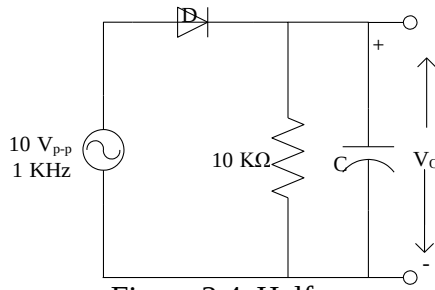
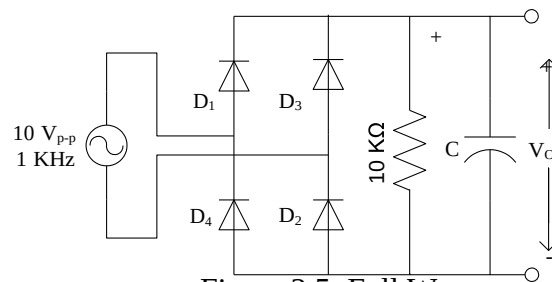

Figure 2.4: Half wave
Figure 2.5: Full Wave
1. First, connect the circuit in breadboard as shown in figure 2.4 without any capacitor.
7. Repeat steps 1-6 for Figure 2.5.
Half Wave Rectifier (Fig 2.4)	Full wave Rectifier (Fig 2.5)
a) Input-output without capacitor (fig 2.4)
d) Input-output without capacitor (fig 2.5)
b) Input-output with 0.22uF (fig 2.4)
e) Input-output with 0.22uF (fig 2.5)
c) Input-output with 10uF (fig 2.4)
f) Input-output with 10uF (fig 2.5)
1. For Fig 2.4 and Fig 2.5, draw the input-output wave-shape without capacitor, with 0.22 μ F capacitor and 10 μ F capacitor.